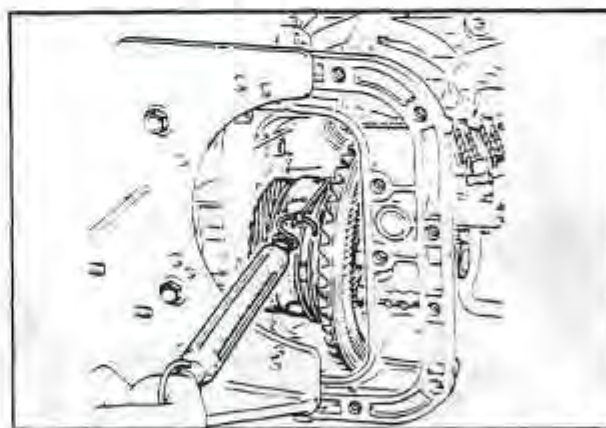

Fig. 81 DIFFERENTIAL CARRIER PRE-LOAD
- f. Wrap a piece of string around the differential carrier housing and measure the pre-load by pulling on the string with a spring scale. Take the reading while the carrier is rotating. Fig. 81.